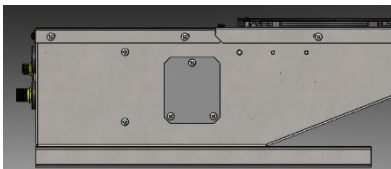

Figure 5 Mounting position 1
- i Position legs flush with the rear of unit seen in Figure 5 Mounting position 1